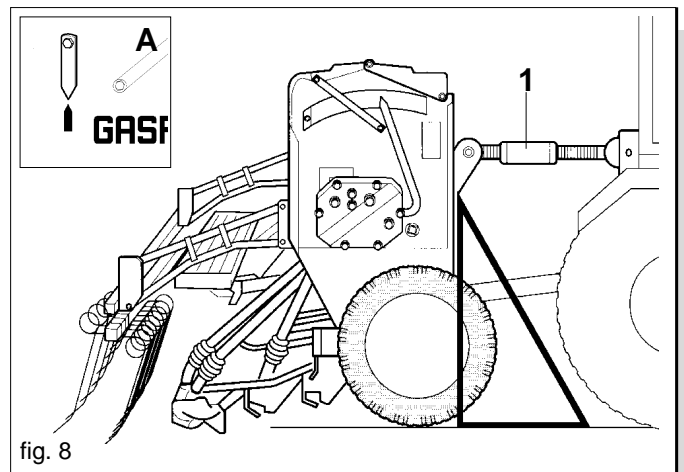

fig. 8
- 1) Connect the seeder to the tractor's three point attachment; the pins must be fastened with the appropriate pegs. Use the adjustment stay-bolts (1 Fig. 7-8) to ensure that the seeder is perpendicular to the ground (Fig. 8), check to make sure that the position indicator on the left side (A Fig. 8) is in the correct (vertical) and act on the third point if required.